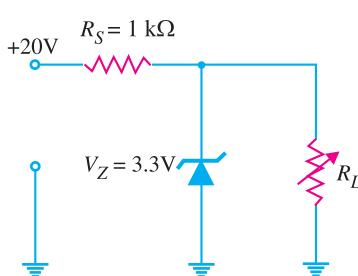

Fig. 17.32
- The zener diode in Fig. 17.32 has values of  $I_{Z(min)} = 3$  mA and  $I_{Z(max)} = 100$  mA. What is the minimum allowable value of  $R_L$  ? **[241  $\Omega$ ]**